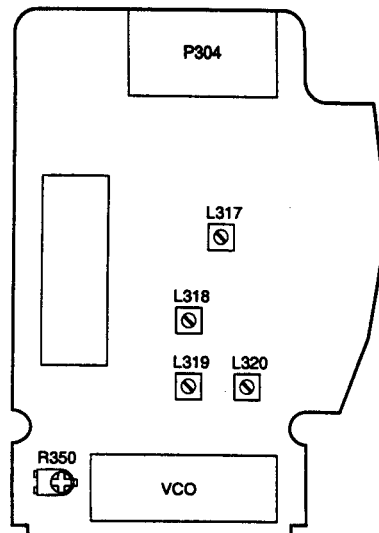

Fig. 5-5 RF PCB
- 1) Connect an RF power meter to the antenna connector through the coupler. Key to transmit and adjust R350 on the RF PCB as shown in Table 5-2. (See Fig. 5-5.)
- 2) Set the output level of the RF signal generator and adjust L317 – L320 on the RF PCB as shown in Table 5-3. (See Fig. 5-5.)